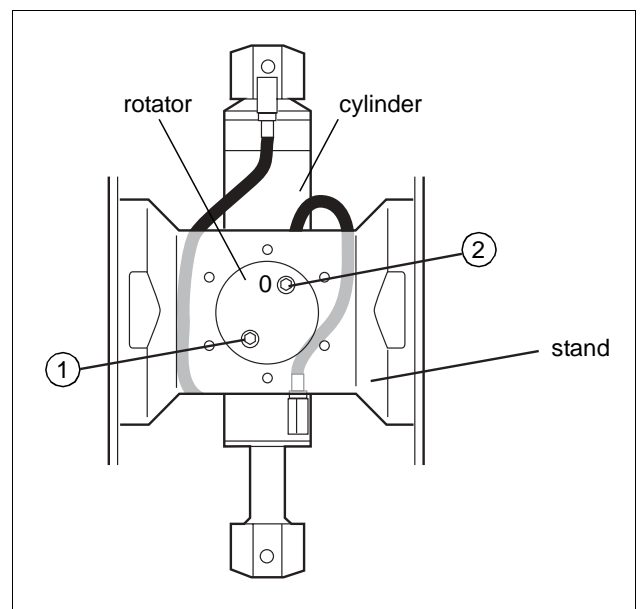

Fig. 23 Connecting the hydraulic hoses
3. Place the rotator on the grapple. Turn the rotator's hose connections in the direction as shown in adjoining figure. See Fig. 23.
4. Connect the hydraulic hoses. See Fig. 23.